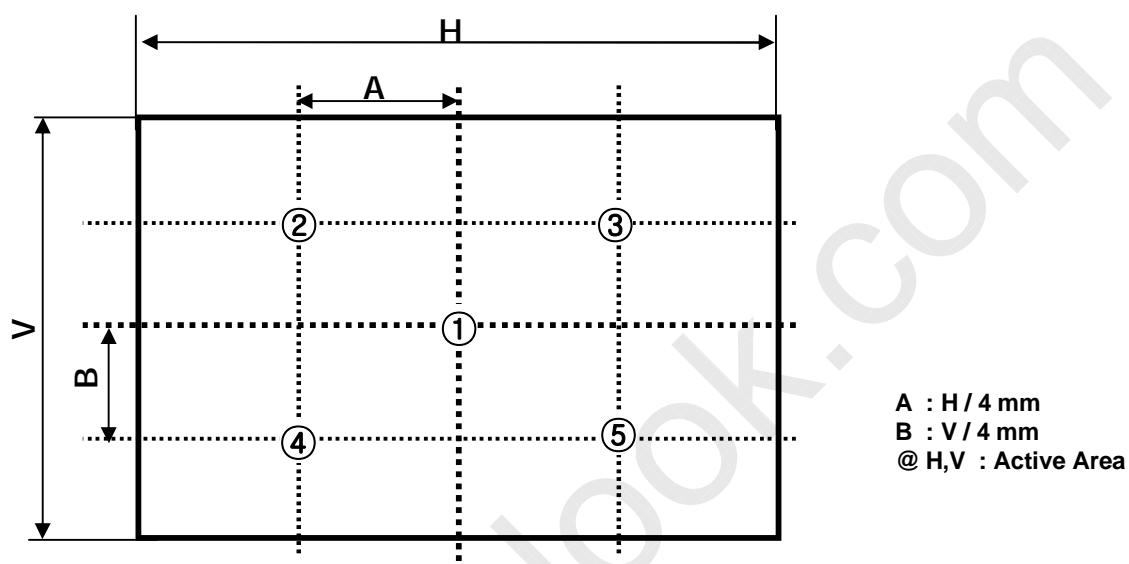

FIG. 2 5 Points for Luminance Measure
$n$  = the Position number(1, 2, 3, 4, 5). For more information, see FIG 2.
2. Surface luminance are determined after the unit has been 'ON' and 30min after lighting the backlight in a dark environment at  $25 \pm 2^\circ\text{C}$ . Surface luminance is the luminance value at center 1-point across the LCD surface 50cm from the surface with all pixels displaying white. For more information see the FIG. 2.
For more information, see the FIG. 2.